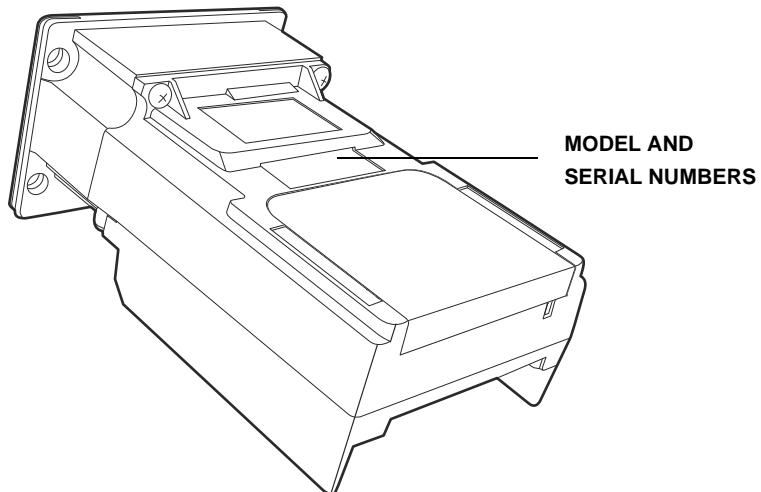

Figure 21 Information Labels on Unit Top
- 1 Gather the following information from the printed labels (see Figure 21) on the bottom of each unit to be returned:
- Verifone serial number assigned to the unit you are returning for service or repair (serial numbers are located on the top of the unit, (see Figure 21).